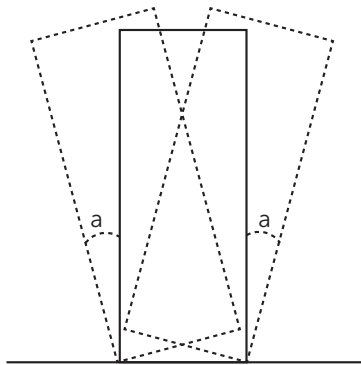

Figure 3-2 Tilt angle
- The tilt angle of the cabinet must meet the requirement as shown in Figure 3-2. The angle before unpacking:  $a \leq 15^\circ$ ; the angle after unpacking:  $a \leq 15^\circ$ .